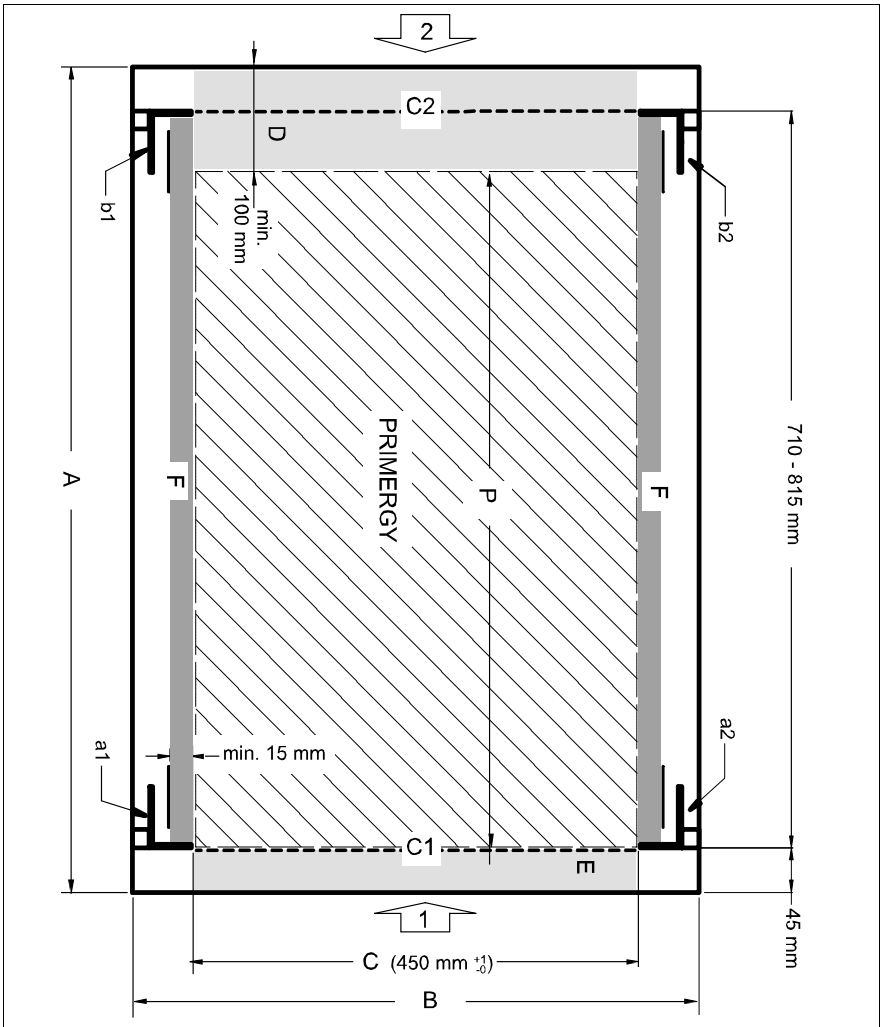

Figure 5: Mechanical conditions
- Installation dimensions (see the dimensions shown in figure 5 on page 37).